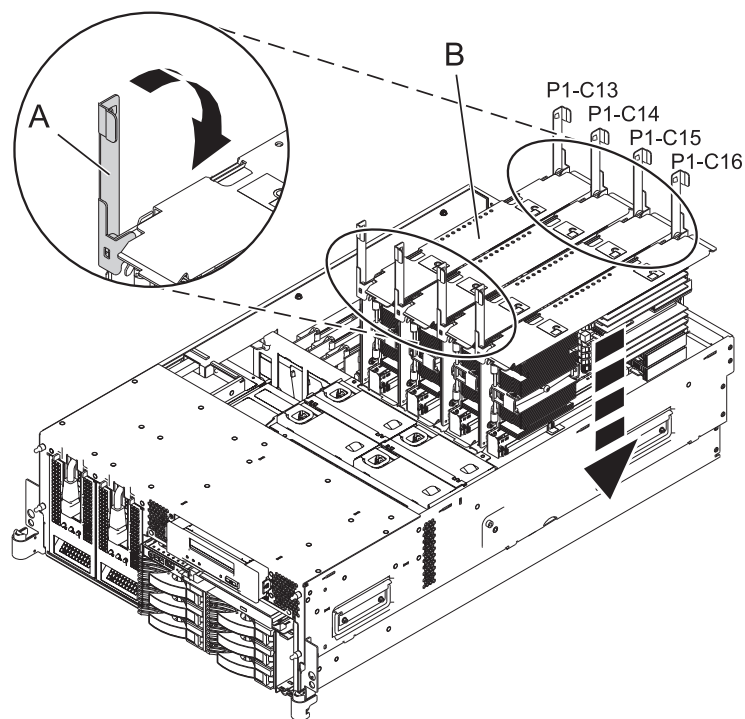
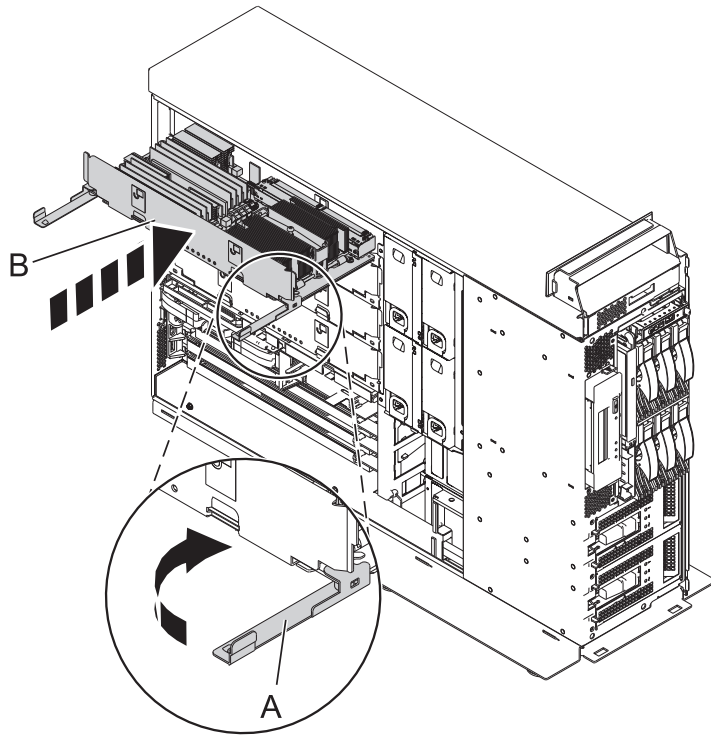

Figure 3. Installing the system processor in a rack-mounted system
Figure 4. Installing the system processor assembly in a stand-alone system
10. With the latches (A) in the unlocked position, place the system processor assembly (B) into the system as shown in Figure 3 and Figure 4 on page 8.
11. Move the latch (A) in the direction of the arrow to lock the system processor assembly into position.